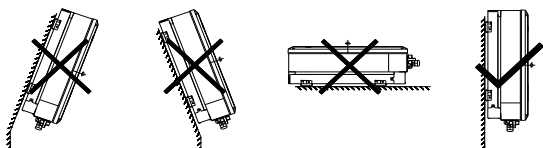

Figure 5.2 Installation position
- (1) The environment temperature is between -25°C and 60°C.
- (2) The installation surface is perpendicular to the horizontal line. Refer to the Figure 5.2.